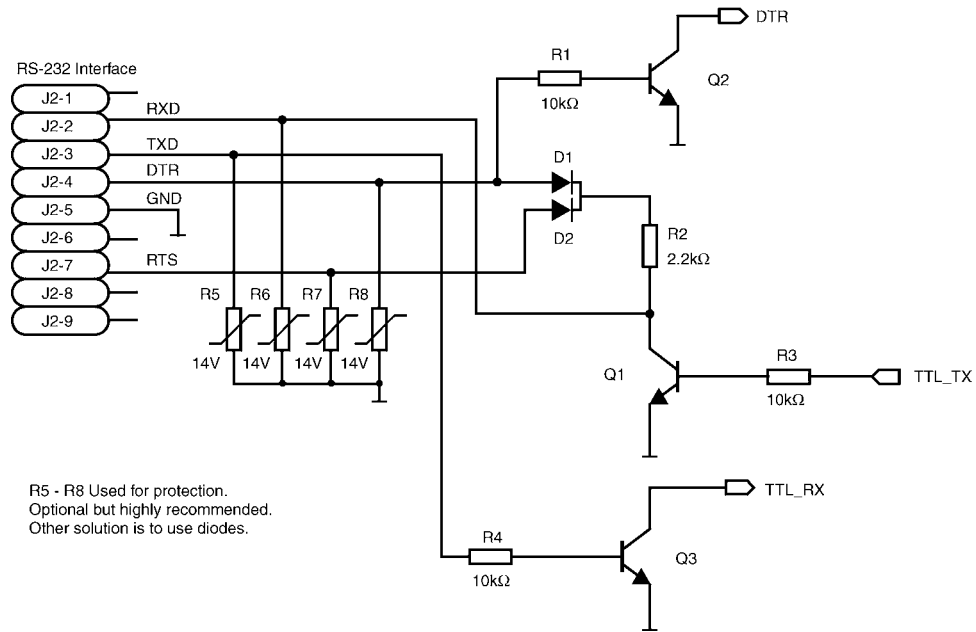

Fig. 4
The device uses the RS232 protocol to communicate with the touch screen (TS) driver. To minimize the cost of the board and to demonstrate the low cost components that can be used to drive the RS232 connection, three BJTs are used. Although it is possible to use a RS232 driver chip, the use of BJTs are lower in cost. Figure 4 shows the RS232 circuitry.